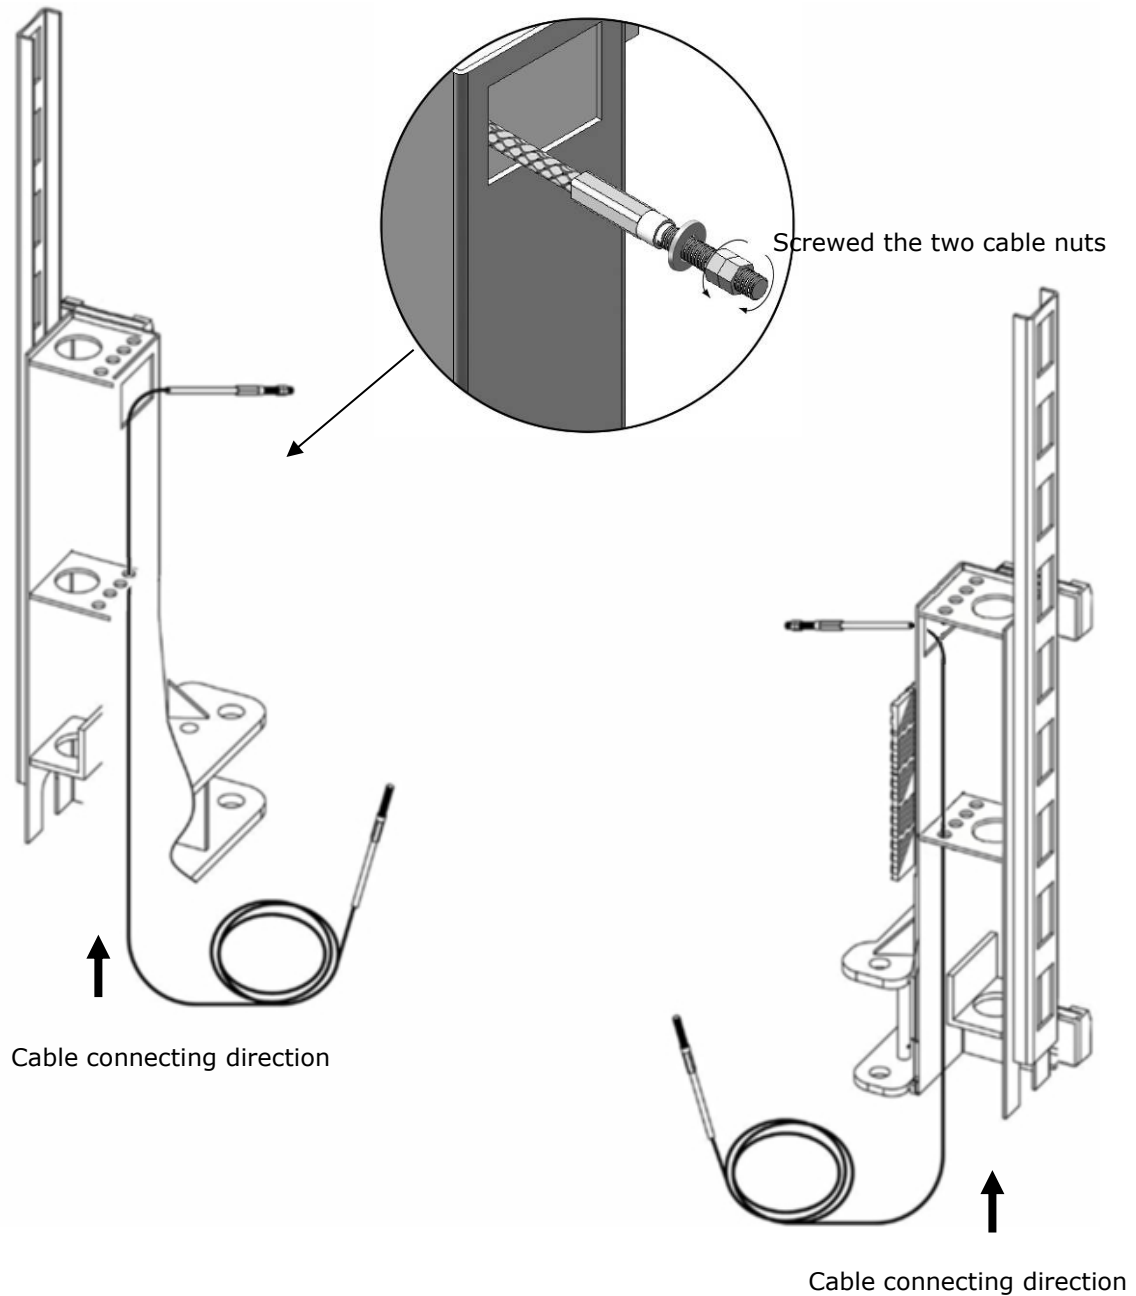

Fig. 27
1.1 Take out the carriage plastic cover, cable pass through from the bottom of the carriage and be pulled out from the open of carriage, then screw the two cable nuts (See Fig. 27).